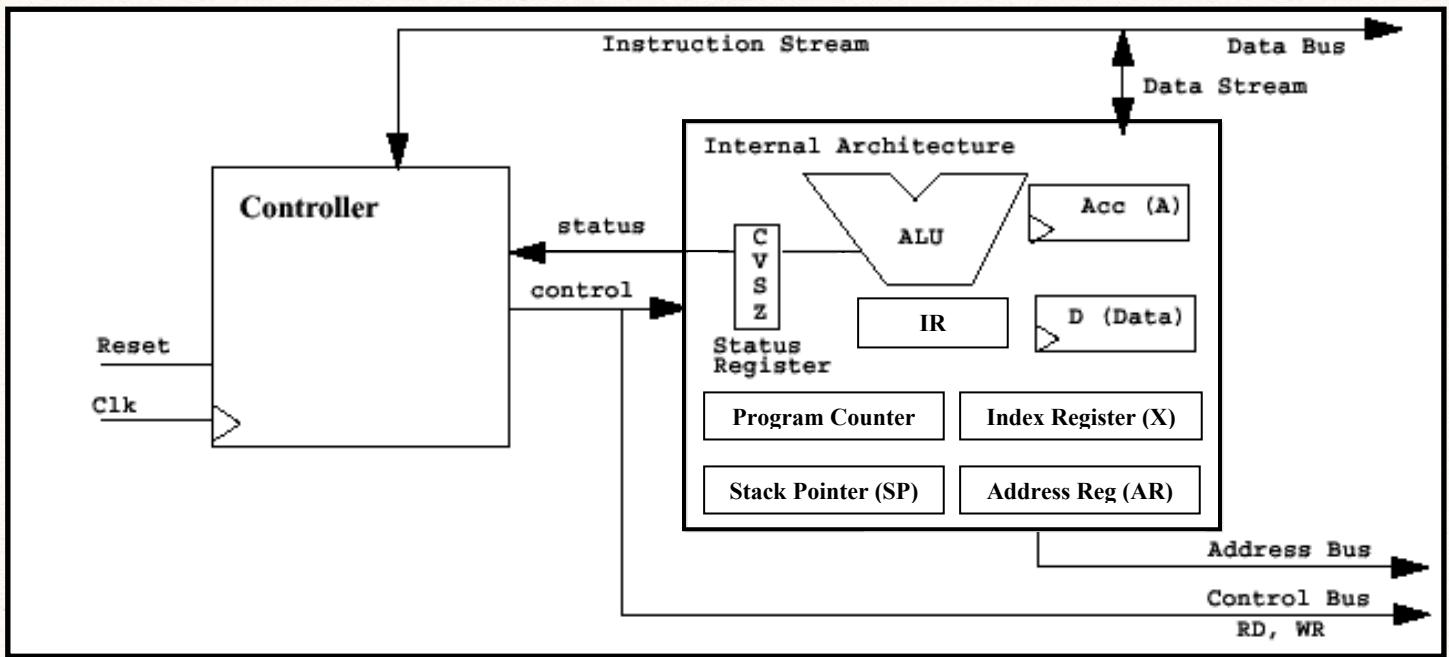

Figure 2. General architecture of the Small8 CPU.
- Two general-purpose registers: Accumulator (A) and Data (D) which are viewed by the programmer as persistent and should only change if an instruction specifically changes them.
- Some special-purpose registers, including Index Register (X), Program Counter (PC), Address Register (AR), Instruction Register (IR), and Stack Pointer (SP).
- The Controller controls the components of the Internal Architecture via the control signals as shown in Figure 2. Examples of these control signals include PC.INC, A.LD, AR.LD, D.OE, etc.